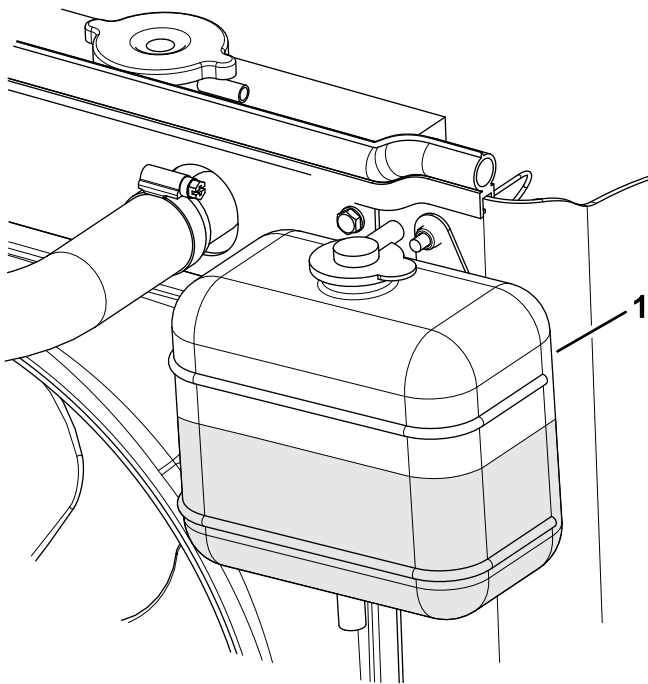

Figure 78
3. Check the level of the coolant in the expansion tank (Figure 78).